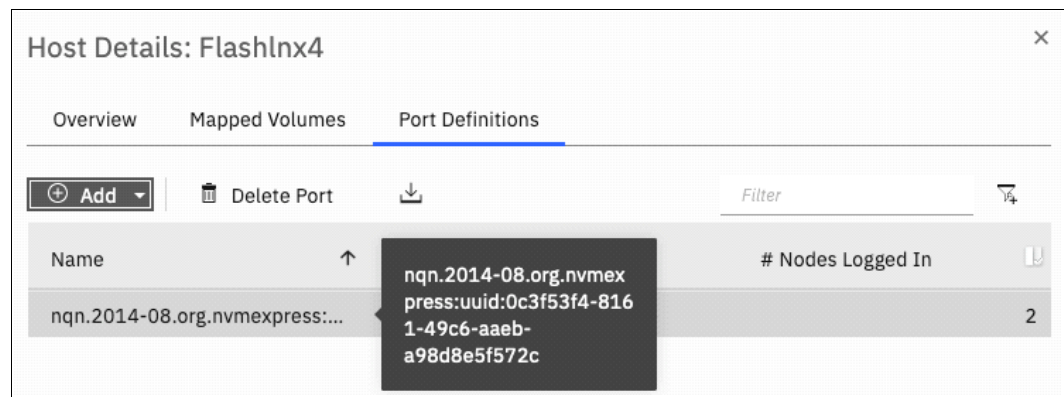

Figure 7-81 Checking the host object NQN on the system
7. Create a host object on the system by using the host NQN, as described in “Creating NVMe host objects” on page 430. Check that the host object has the correct NQN set. (see Figure 7-81).